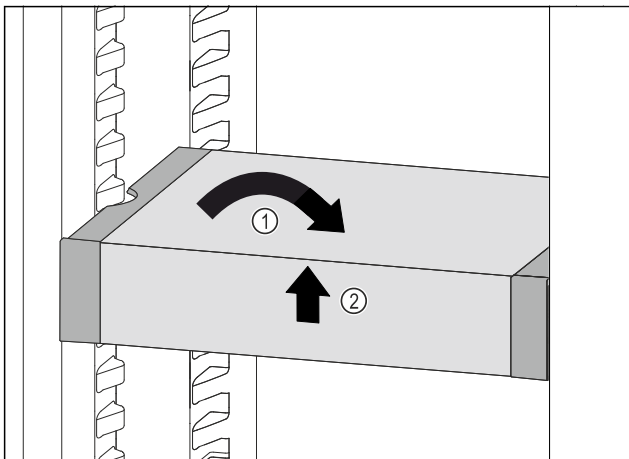

Fig. 38
- ▶ Set VarioSafe straight. Fig. 38 (1)
- ▶ Lift VarioSafe at the front. Fig. 38 (2)